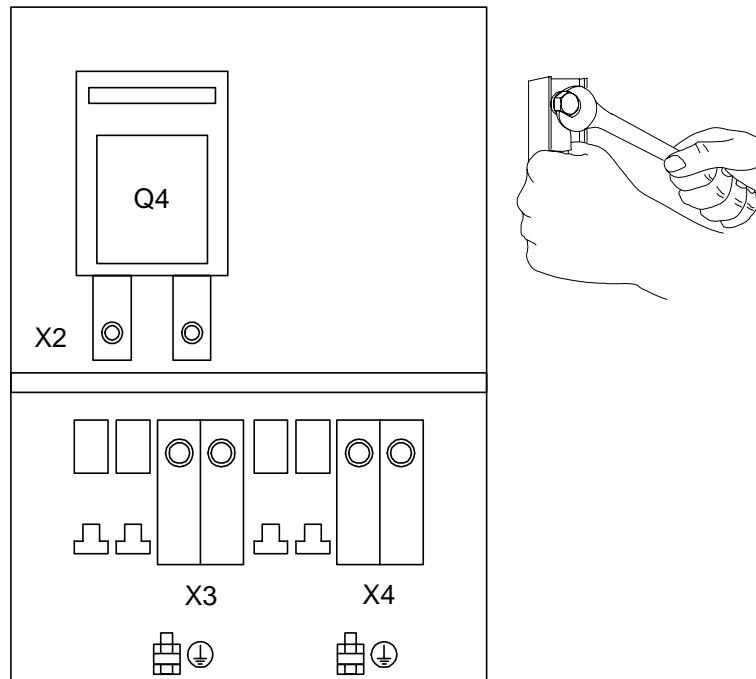

Figure 13 Connection panel of the inverter
The connection and earthing terminals are similar in all Protect 5. Inv1/xxx units (refer to Figure 13).
- Fix the cables to be connected to the respective copper rails by securing the cable lugs (refer to Figure 13) using a spanner.
- **Secure the protective earth conductors (PE)** to the designated unit frames.